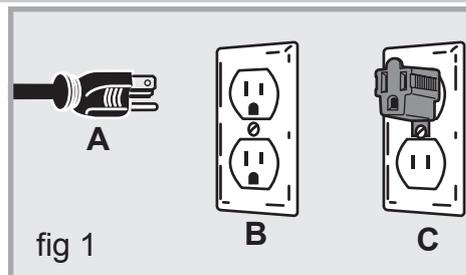

fig 1
In the event of an electrical malfunction or short circuit, grounding reduces the risk of electric shock. The motor of this machine is wired for 120 V single phase operation and is equipped with a 3-conductor cord and a 3-prong grounding plug to fit a grounded type receptacle (B, fig 1). Do not remove the 3rd prong (grounding pin) to make it fit into an obsolete 2-hole wall socket or extension cord.
If an adaptor plug is used (C, fig 1), it must be attached to the metal screw of the receptacle.
2. Place the threaded end of the rod through the stop assembly mounting hole (AA, fig 1 & 2)